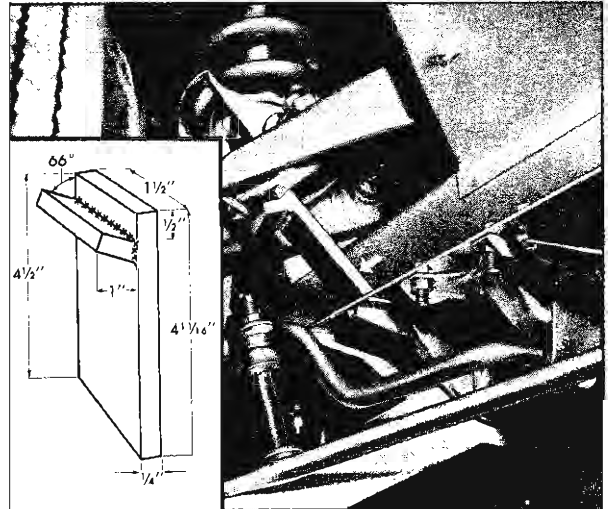

Fig. 14—Upper Control Arm Support Installed—Chevy II
1. While vehicle weight is still on front wheels, position support between upper control arm and frame side rail (fig. 14).
**NOTE:** Right side control arm support bracket is illustrated in Figure 14. For left side, angled support should be welded to reverse side of plate.